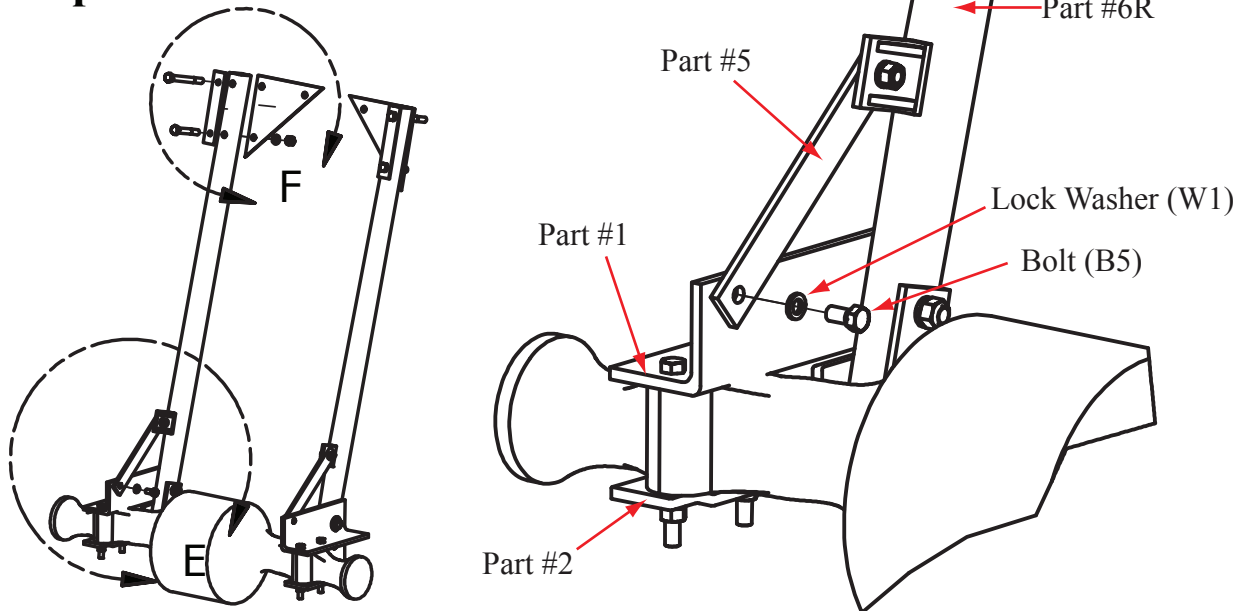

Figure 7
**Step 14.** Bolt vertical tube bolted brace (#5) to the top right axle bracket (#1) with bolt (B5) and lock washer (W1). Tighten to a snug fit. (Figure 7)